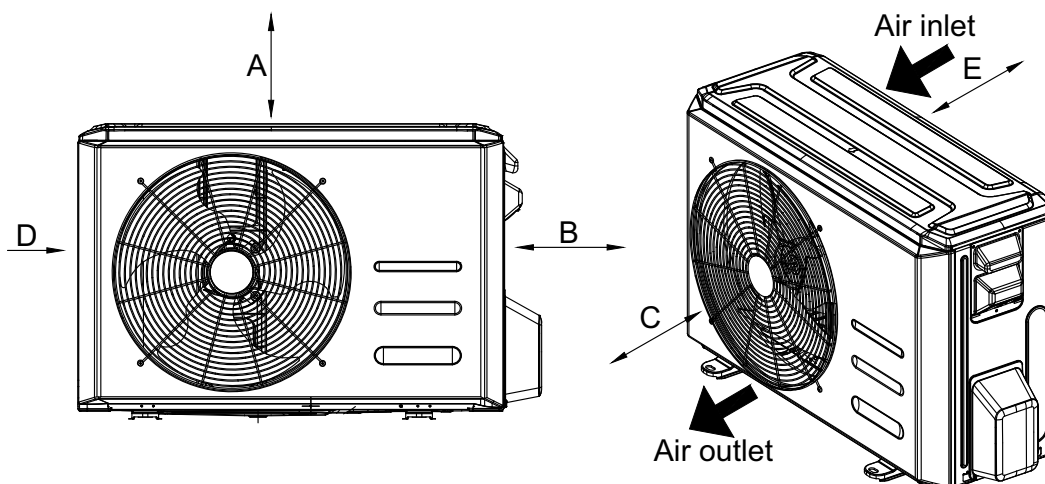

Fig. 6 — Outdoor Unit Clearances
- A location which provides appropriate clearances (see Fig. 6).
- Allow sufficient space for airflow and service of the unit. See Fig. 6 — on page 6 for the required minimum distances between the unit or walls.